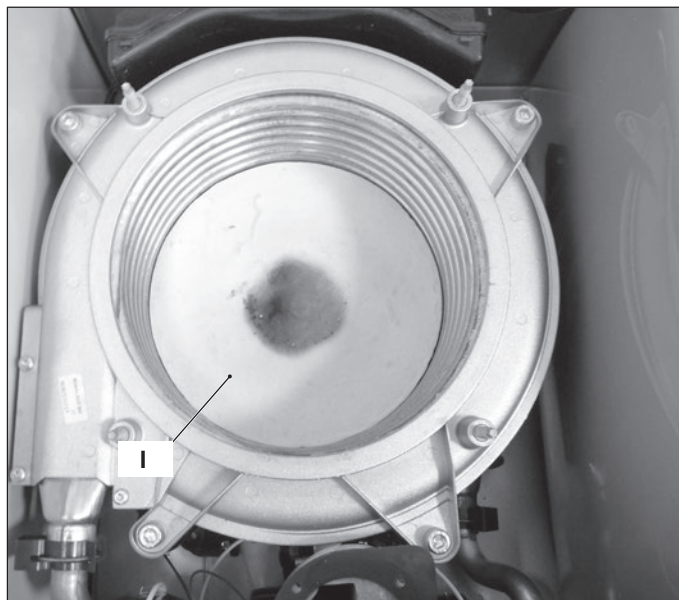

Figure 18.5
- 2 Remove the insulation "I" by pulling it towards the boiler front (Hung it with a screwdriver tip) (Figure 18.5).